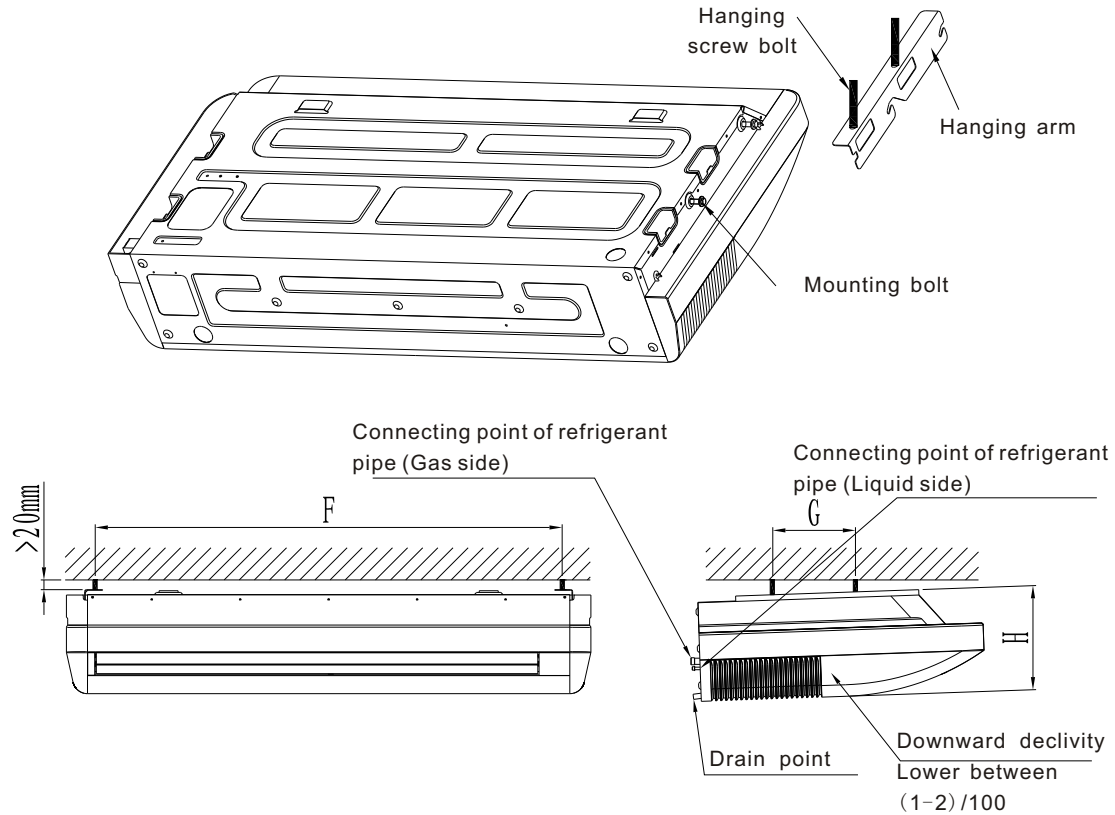

Fig 17
■ Hang the unit on the hanging arm by sliding backward. Securely tighten the mounting bolts on both sides (Refer to Fig 17 )